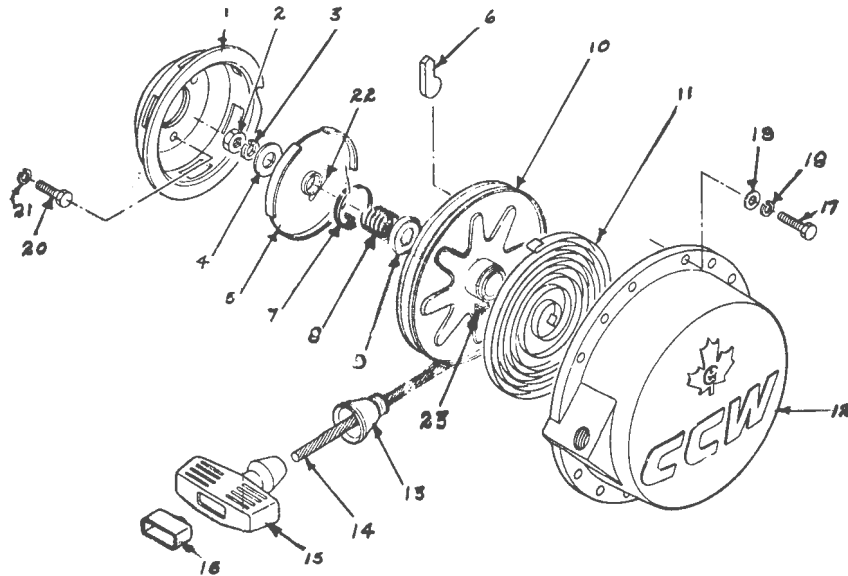

FIGURE 4-2 RECOIL STARTER – EXPLODED VIEW
4.3 RECOIL STARTER (See Figure 4-2)